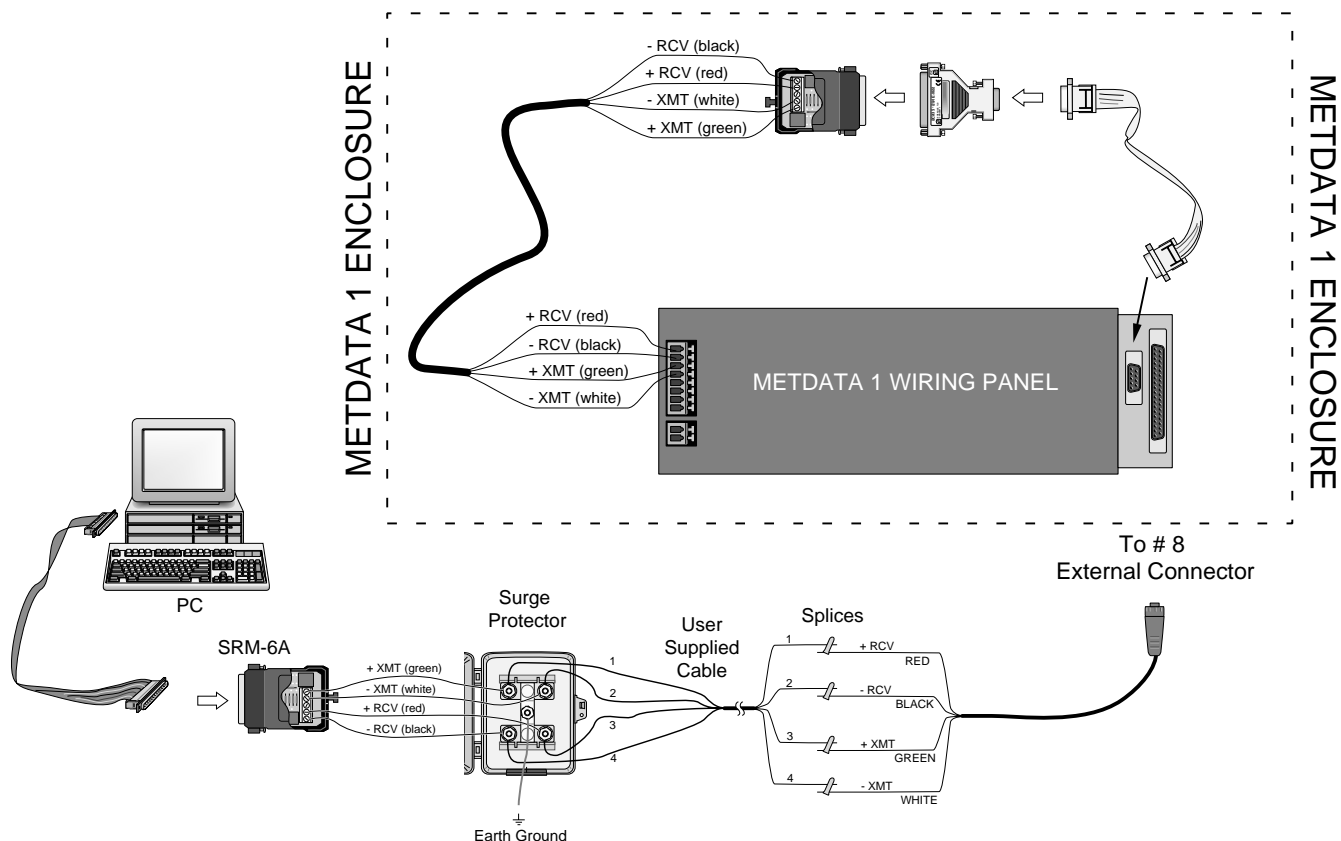

FIGURE 3.3-5. SRM-5A Wiring
3. Route the user-supplied cable from the remote SRM-5A, and the cable from the SRM-5A attached to the computer to the surge protector box. Connect the cables to the surge protector terminals as shown in Figure 3.3-5.